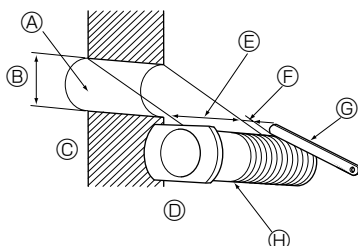

Fig. 3-6
3.4.1. Making holes (Fig. 3-6)
- ① Make $\varnothing 65$ mm or $\varnothing 75$ mm holes that are approximately 5–7 mm deep and angled slightly downward outward from the room.
- ② Insert the wall hole sleeves into the holes.
- ① Wall hole
- ② 65 mm or 75 mm dia.
- ③ Indoor side
- ④ Wall hole cross section
- ⑤ Wall thickness
- ⑥ One scale
- ⑦ Cut with 1 extra scale length.
- ⑧ Wall hole sleeve